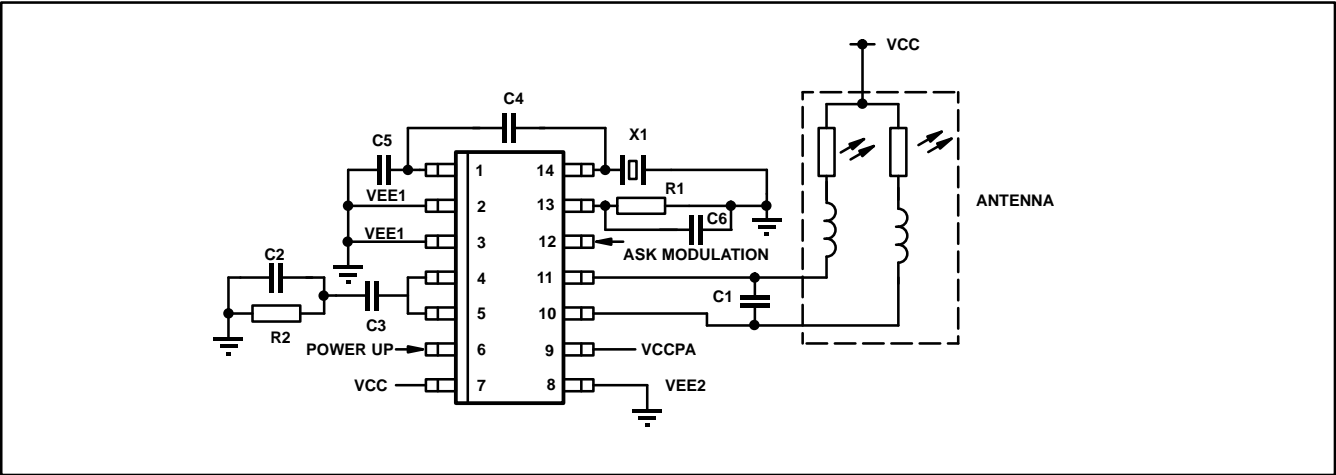

Fig. 6 Application diagram
4. Regulatory issues demand that transmission does not take place until the PLL has acquired lock and the VCO is operating at its final output frequency. This requirement demands that pin TXEN is set high at least Txe ms prior to the transmission of any data. This value is dependent on the PLL loop bandwidth and hence on the value of the external loop filter component values. The specification value above is for the loop filter components shown in the applications diagram (Fig. 6)
on–off keying of the bias current in the output power amplifier stage. The output of the PA is a balanced output (pin OUT and OUTB) and is current source driven (open collector outputs). The outputs of which should be D.C. referenced to a positive supply voltage (anticipated to be V_{CC} in most applications). The current source outputs can drive a PCB antenna directly (Fig. 6) or if a higher output power is required on limited supply headroom via a simple impedance transforming network.